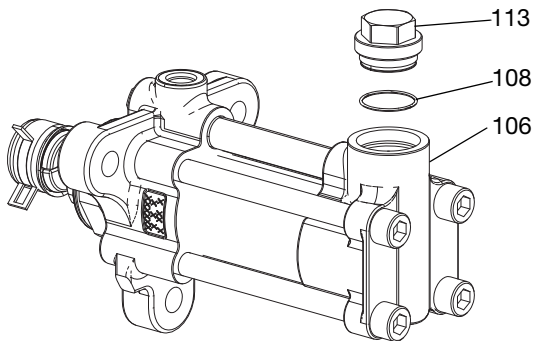

FIG. 3
2. Remove inlet hose and drain inlet housing (106).
3. Remove inlet valve cap (113) from inlet housing (106), and remove O-ring (108). See FIG. 3.